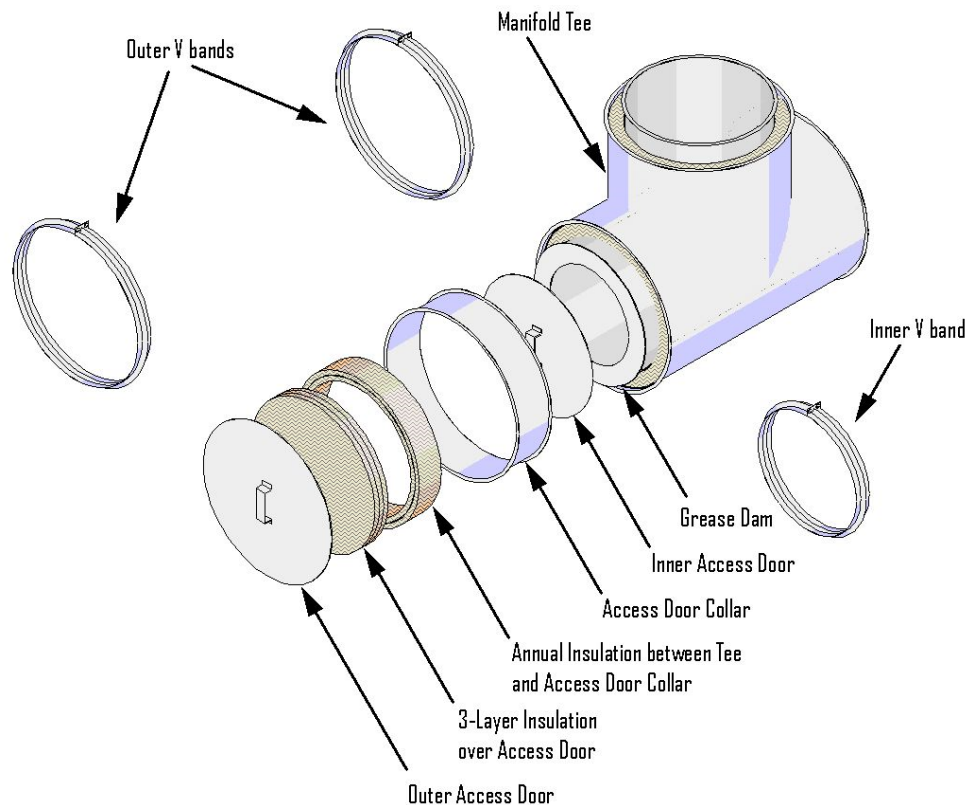

Figure 2. Access Door Assembly
- B. ACCESS DOOR** – When required, use the duct manufacturer's manifold tee and access door (tee cap) assembly (see Figure 2). Apply a 1/4 in. continuous bead of sealant (Item 2A) to the inner flange of the tee on the side where access door is to be located. Center the supplied grease dam over the opening of the tee. Verify that the grease dam is sealed to the tee flange by applying pressure. Remove excess sealant (Item 2A). When the sealant (Item 2A) is dry attach the supplied inner access door using a V band (Item 2B). Tighten 1/4-20 hardware to 40-60 in.lbs. Install access door collar to manifold tee with V band (Item 2B) and tighten the 1/4-20 hardware to 40-60 in.lbs. Install joint insulation (Item 2C) in the annular space created between inner duct and the access door collar, using the same insulation type and number of layers as required for other joints detailed in Item 2. Over the access door, install three layers of the supplied, circular, pre-cut, nominal 1 in. thick insulation of the same type and density as used in the pre-fabricated grease duct (Item 1). Secure outer access door to outer access door collar using V band (Item 2B); tighten the 1/4-20 hardware to 40-60 in.lbs.